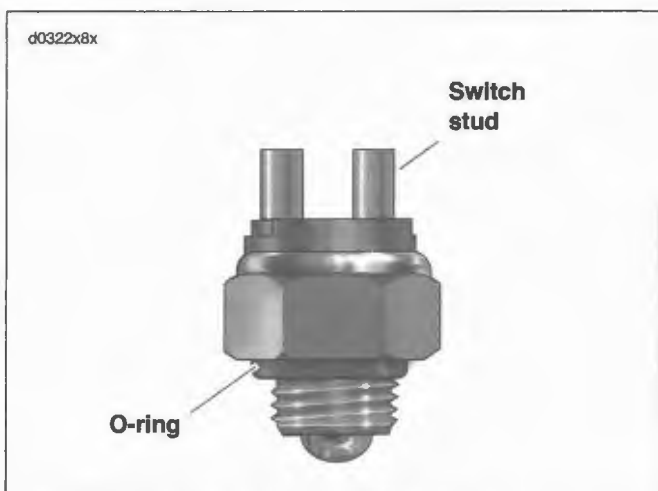

Figure 8-84. Neutral Switch
3. See Figure 8-84. Using fingers, remove connectors from switch studs.
1. See Figure 8-84. Lubricate O-ring with transmission oil.